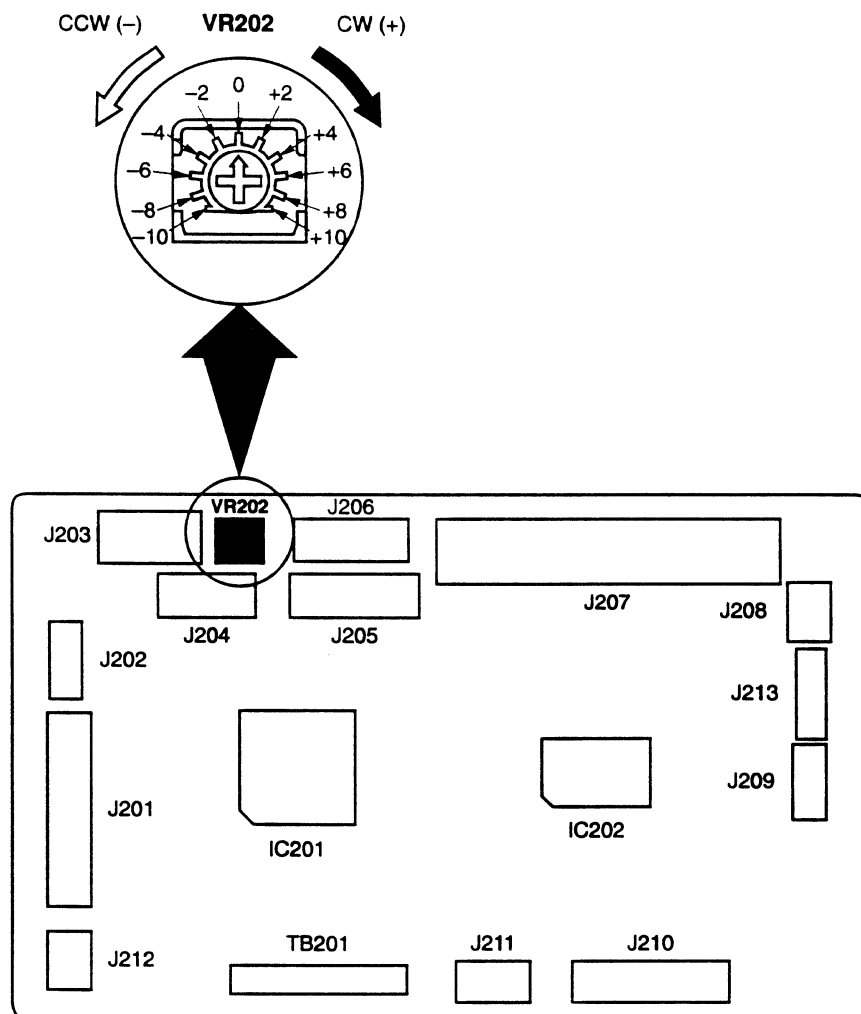

Figure 6-8
- 4) Adjust VR202 so that the value obtained in step 3 is 2.0 mm according to Table 6-4. For example, if the average value in step 3 is 2.6 mm, the difference is 0.6 mm. Set VR202 to +2 by turning it clockwise. (See the table 6-4 and figure 6-8.)